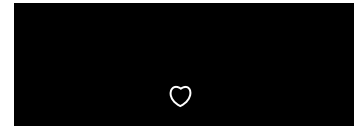

Fig.1
7. Press and hold my favorite pad for 3 seconds. The recipe is successfully stored when the heart icon appears in oven display (Fig. 1).	my favorite